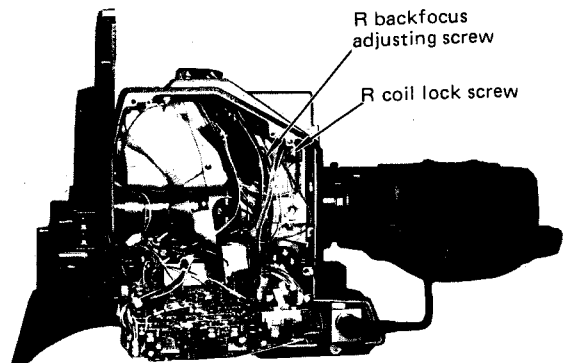

Fig. 5-4-3
- o Set the SW1 (REGISTRATION SWITCH) on the Process board to the R position for observing the red (R) signal.
- o Loosen the R coil lock screw (R LOCK) slightly. (Fig. 5-4-3)
- o Adjust the focus by turning the R backfocus adjusting screw (R BACKFOCUS). (Fig. 5-4-3)